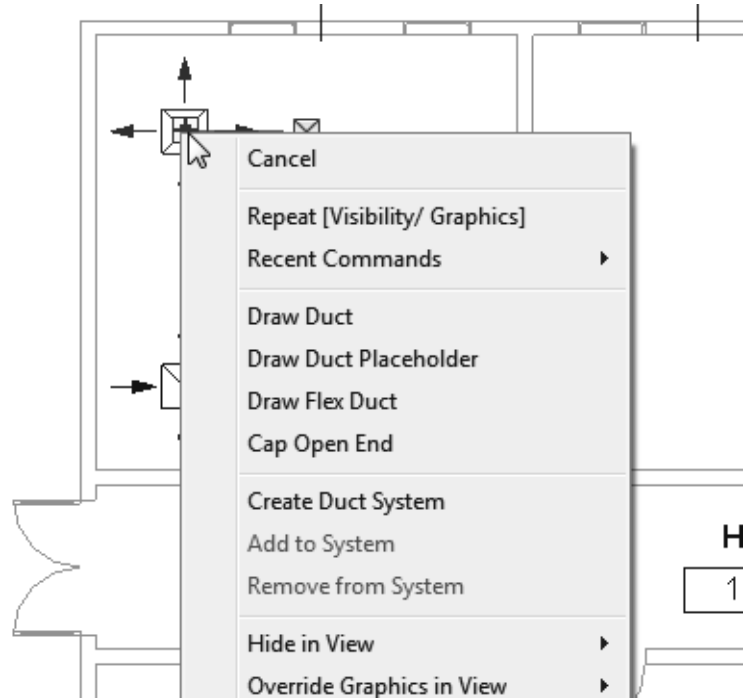

Figure 2–43
3. Right-click on the control and look at the variety of options you can use, as shown in Figure 2–43.